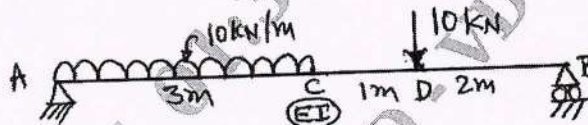

Fig. Q5 (c)
c. Determine the deflection at 'C' of the beam shown in Fig. Q5 (c) using strain energy method. (10 Marks)